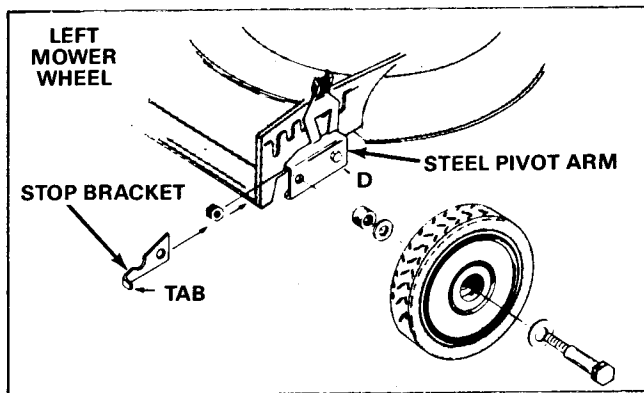

Figure 142
16. Reinstall the LEFT mower wheel as follows (see Figures 142 and 143).